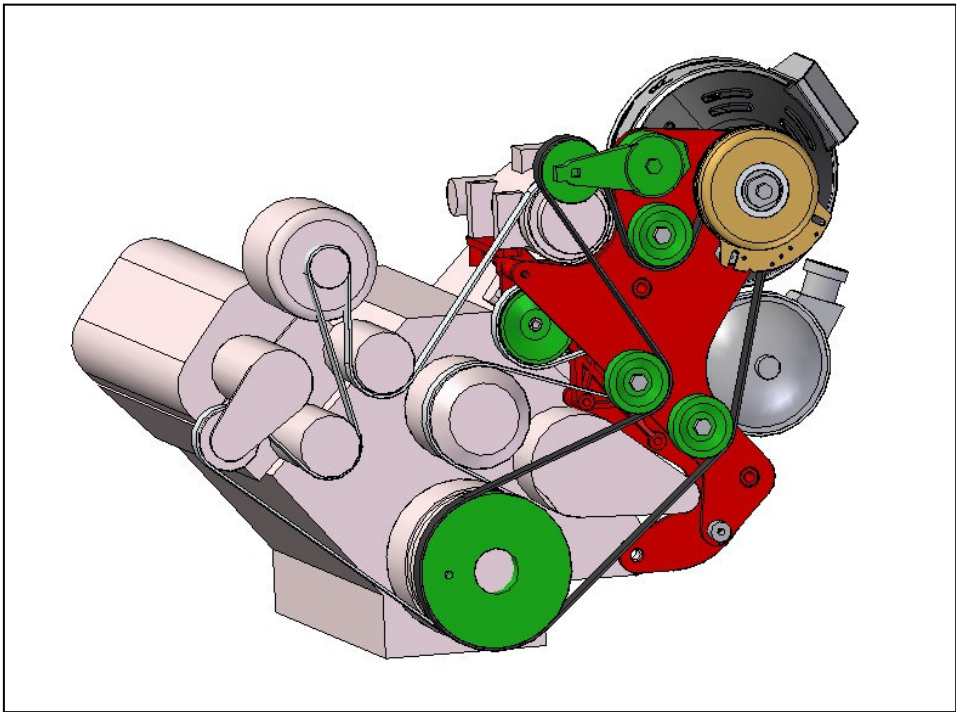

Figure 3
25. Connect the generator bracket (**Figure 3**) to the base bracket using two 5/8-16 x 1" bolts and one M10 bolt. Loctite and tighten the 5/8 bolts and the M10 bolt.